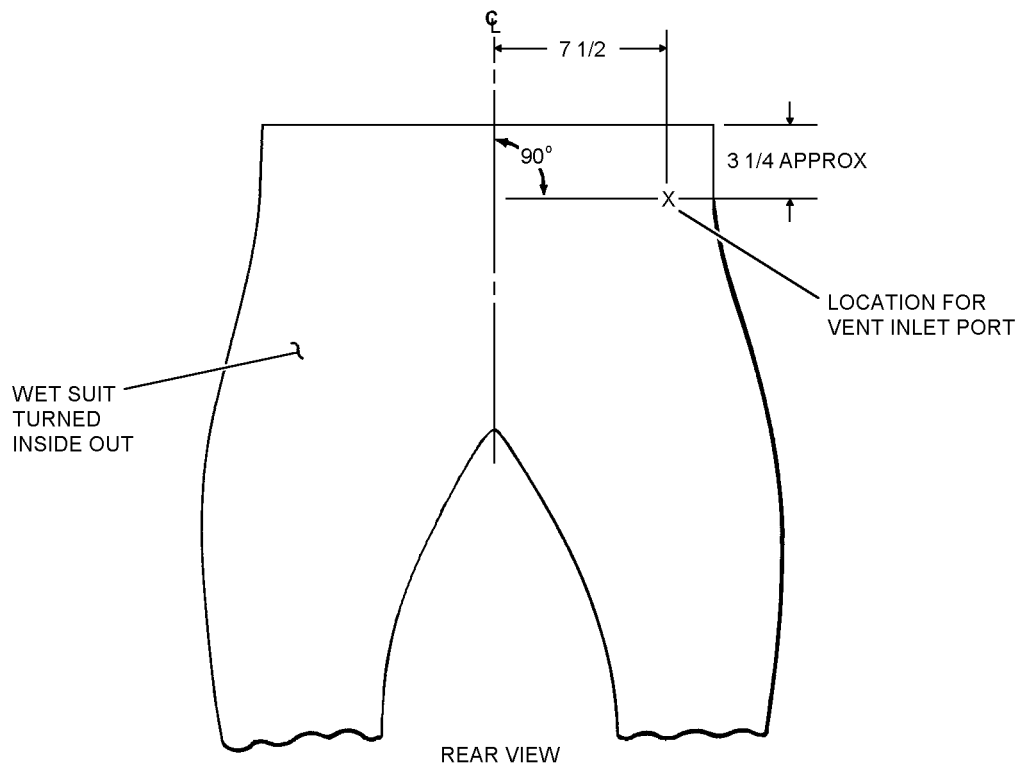

Figure 5-22. Vent Inlet Port Position (Pants)
b. Mark location on wet suit pants for vent inlet port. See figure 5-22.